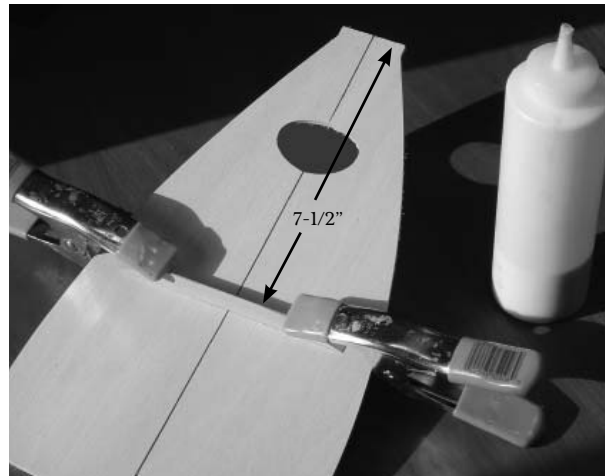

FIG. 16
- ___18. Glue the **BRACE** to the inside of the **SOUNDBOARD**, as shown. Center the **BRACE** on the intersection of the two lines on your **SOUNDBOARD** and use two clamps to glue the **BRACE** in that position. (fig. 16)